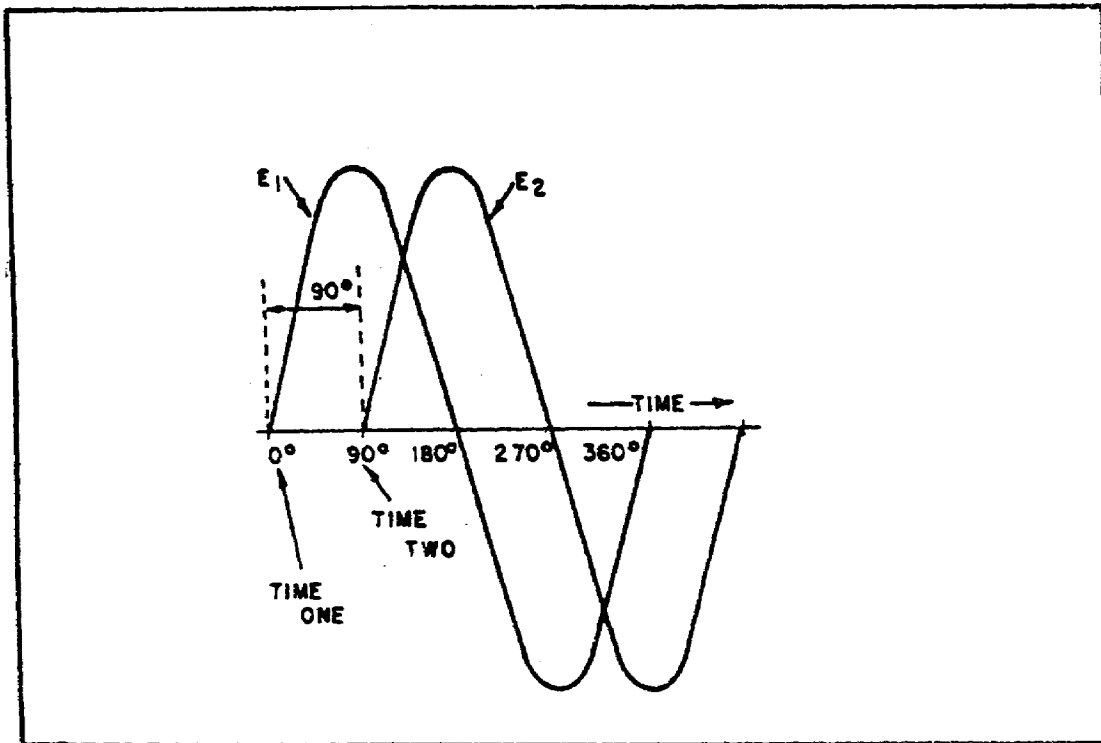

FIGURE 69. VOLTAGE WAVES 90° OUT OF PHASE.
1. *Sine Waves Out of Phase.* Figure 69 shows voltage wave E_1 which is considered to start at 0° (time one). As voltage wave E_1 reaches its positive peak, voltage wave E_2 starts its rise (time two). Since these voltage waves do not go through their maximum and minimum points at the same instant of time, a PHASE DIFFERENCE exists between the two waves. The two waves are said to be OUT OF PHASE. For the two waves in figure 69 the phase difference is 90° .
To further describe the phase relationship between two sine waves, the terms LEAD and LAG are used. The amount by which one sine wave leads or lags another sine wave is measured in degrees. Refer again to figure 69. Observe that wave E_2 starts 90° later in time than does wave E_1 . You can also describe this relationship by saying that wave E_1 leads wave E_2 by 90° , or that wave E_2 lags wave E_1 by 90° . Either statement is correct; it is the phase relationship between the two sine waves that is important.